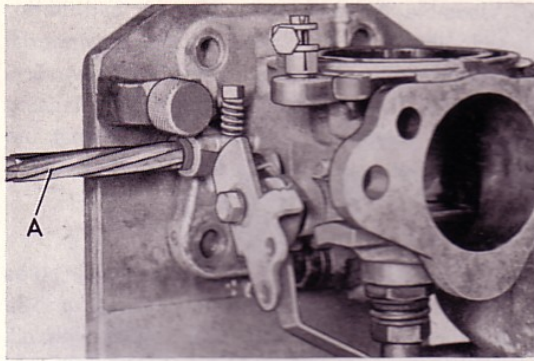

Fig. 110 Reaming the bush
5. Turn the stand pin a further 90° and ream the driven-in bushes with reamer SVO 2401, see Fig. 110.